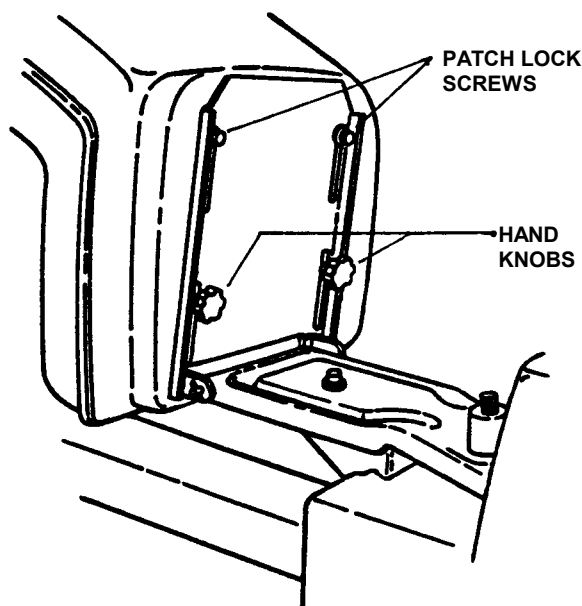

FIGURE 2.3
**2.1.4.** Adjust seat as needed to most comfortable position. Refer to Section "OPERATOR'S SEAT ADJUSTMENT". See Figure 2.3.
1. With the engine stopped, loosen the two adjusting knobs and move seat to desired position. After adjustment, tighten knobs securely. If seat does not move after loosening knobs, it may be necessary to loosen the 5/16" patch lock screws located at the rear of the seat using a 1/2 inch wrench. The adjusting knobs need to be positioned as shown so as not to interfere with seat mounting plate when returned to sitting position. See Figure 2.3.